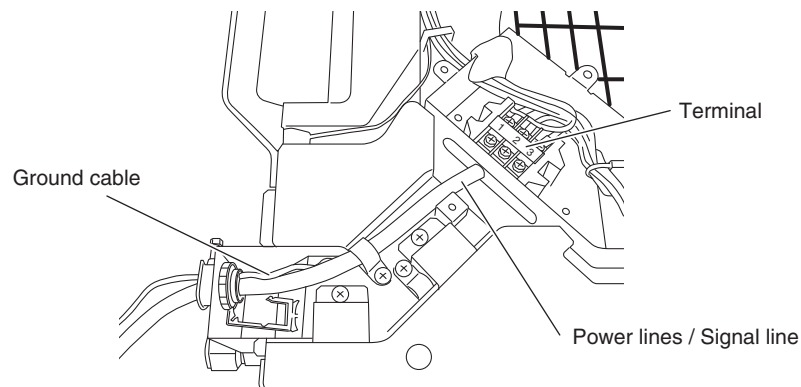

Fig.12
- (3) Disconnect the power lines (No. 1 and No. 2) / signal line (No. 3) and ground cable from the terminals in the power box. (Fig. 12)